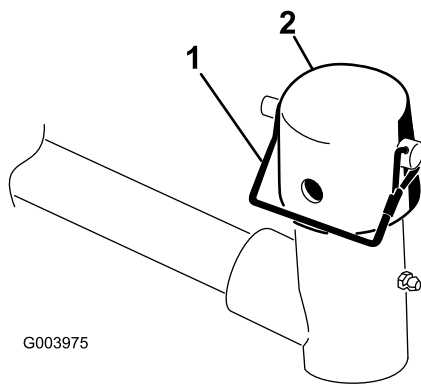

Figure 9
7. Remove the snapper pin and the cap from the lift-arm pivot yoke (Figure 9).
11. Secure the cap and the carrier-frame shaft to the lift-arm yoke with the snapper pin (Figure 9).